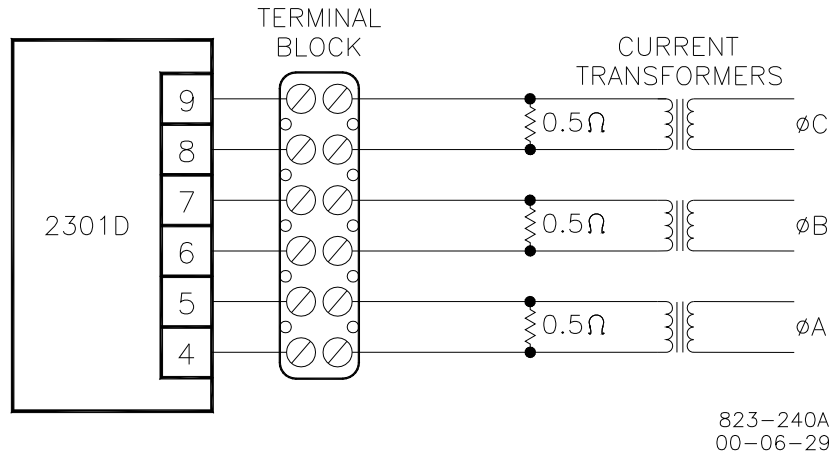

Figure 5-1. Temporary Wiring for Transformer Phase Correction
HIGH VOLTAGE—Never disconnect any wire attached to load sensor terminals 4 through 9 when the prime mover is running unless temporary 0.5 A, 20 W resistors are installed as shown in Figure 5-1, and all load is removed. The current transformers can develop dangerously high voltages when open circuited while the prime mover is running.
The Phase Correction Procedure requires that the prime mover be shut down many times to disconnect the current transformers. For convenience, a temporary method of connecting the current transformers shown in Figure 5-1 is recommended. Connecting a 0.5 A, 20 W burden resistor across each current transformer allows the current transformers to be disconnected from the terminal strip with the prime mover running, after removing all load.
HIGH VOLTAGE—The current transformers can develop dangerously high voltages. Do not disconnect a current transformer while the prime mover is running unless temporary 0.5 A, 20 W resistors are installed as shown in Figure 5-1, and all load is removed.
If the temporary burden resistors described above and shown in Figure 5-1 are not used, the prime mover **MUST** be shut down in addition to removing the load in the following procedure.
10. With the engine running at no load, idle speed; increase the gain one click at a time until a sustained speed oscillation is only just obtained. In between clicks, use the actuator bump feature to introduce a very small bump to the system (1% fuel demand, 0.020 seconds works well). The system oscillations will either die out in a short amount of time (stable), stay at the same amplitude for a long time (marginally stable), or keep increasing in amplitude (unstable). To start with, you will most likely be in the stable range, where the oscillations die out with time. As you increase the gain, you will eventually go into the unstable region, where you might need to switch back to 2nd dynamics to get the engine under control. Reduce the gain and switch back to 1st dynamics. Keep slightly adjusting the gain up or down until you find the setting that gives you the point of marginal stability. When you are there, the oscillations will neither decrease nor increase in amplitude. If you can maintain a constant amplitude for 30 seconds to a minute, you have found the point. If the oscillations die out, your gain is too low. If they keep getting bigger, your gain is too high. Adjust if required. The following trace (Figure 5-1) is an example. Write down the Gain setting (5.92 in this example) and call it K_u . This is needed to calculate final settings.